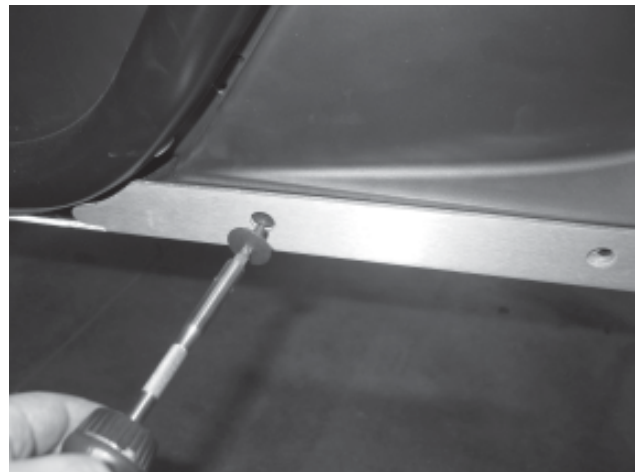

Figure 10
15. Install M6 screws (B3) in locations shown to fasten front skid plate to side skid plate. **(Figure 10)**